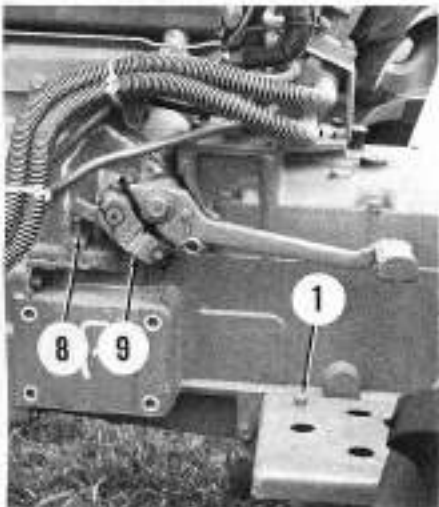

Fig. 95—Clutch pedal free play for 885 models is adjusted by turning screw (8). Refer to text.
Adjust clutch free play by loosening locknut and turning adjusting screw (8-Fig. 95) in to increase free play and reduce pedal height, or back screw out to decrease free play and increase pedal height. If proper amount of free play cannot be obtained by adjusting screw, or pedal height is not correct when free play is properly adjusted, lever (9) must be repositioned on clutch cross shaft. Scribe a mark across shaft and lever, remove bolt and pull lever from shaft. Move lever one serration at a time and in a clockwise direction to increase free play and reduce pedal height, or in a counter-clockwise direction to reduce free play and increase pedal height. Reinstall and tighten bolt when lever is properly positioned.